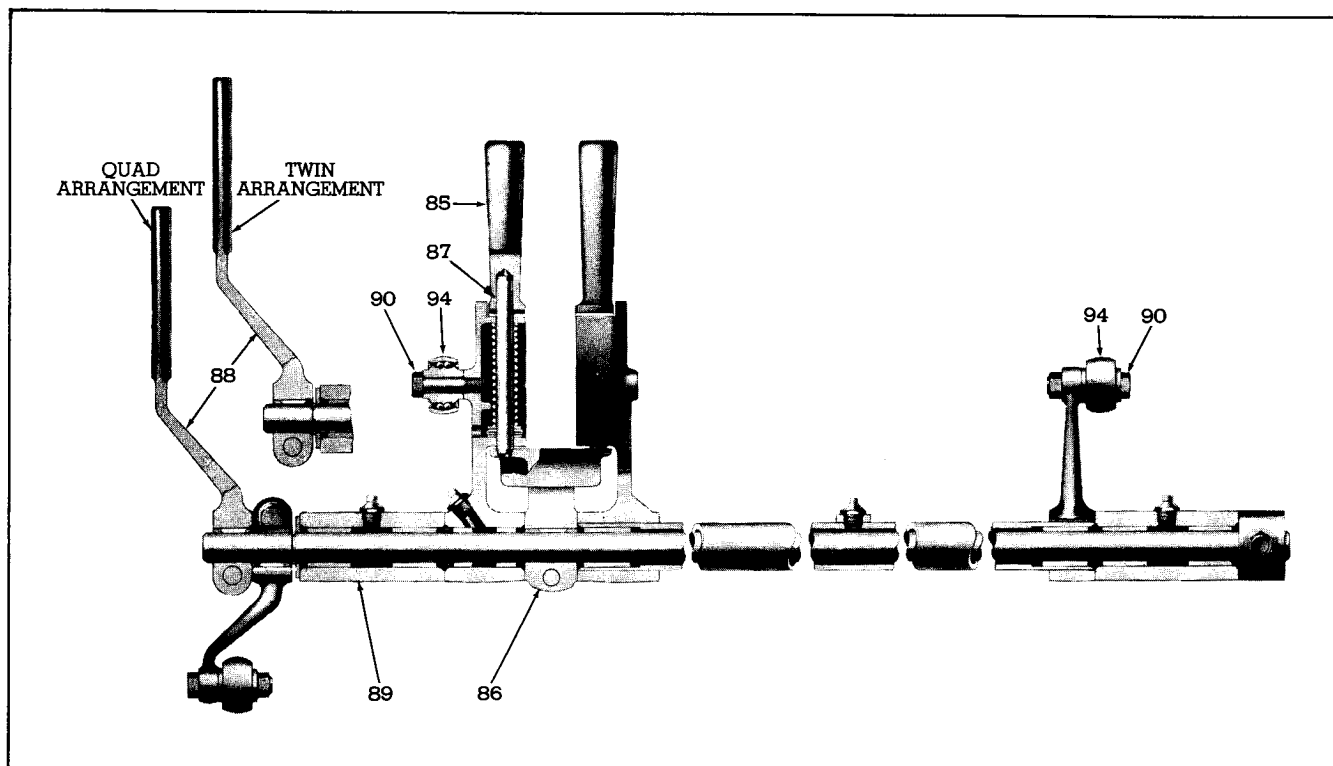

Fig. 17—Throttle Control Cross Shaft Assembly—Twin and Quad Units.
2. Check the two levers on top of each governor cover (84) for vertical alignment (i.e. one exactly over the other). If the levers are not in alignment, adjust the top lever (81) on its shaft until the alignment is correct.
3. Make sure that the individual throttle control levers (85) are latched to their quadrant (86), by positioning pins (87), Fig. 17.
4. Move the master throttle control lever (88) until the forward scribe mark (the mark nearest the engine on the outer individual control lever (85) aligns with the scribe mark on the adjacent shaft bracket (89). The throttle control levers are now in the "FULL FUEL" position.
2. Make sure that the individual throttle control levers (85) are latched to their quadrant (86), by positioning pins (87), Fig. 17.
3. Move the master throttle control lever (88) until the forward scribe mark (the mark nearest the engine) on the outer individual control lever (85) aligns with the scribe mark on the adjacent shaft bracket (89). The throttle control levers are now in the "FULL FUEL" position.